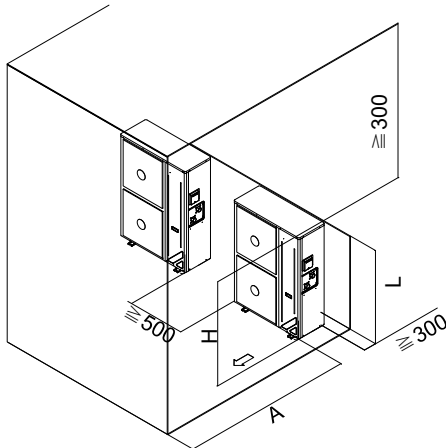

Figure 14
- Group installation (see Figure 14)